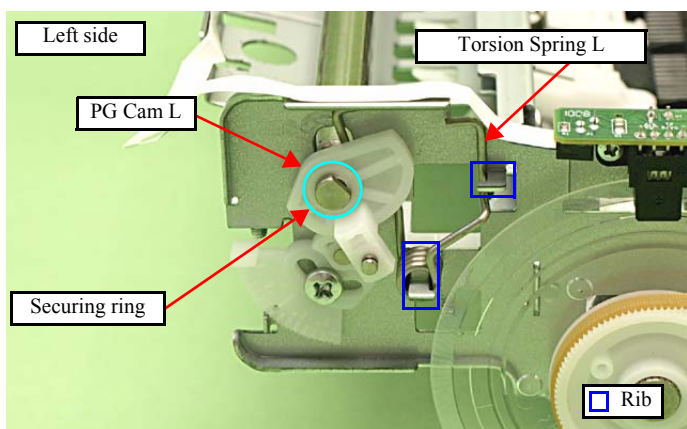

Figure 4-135. Removing the Carriage Unit (4)
10. Remove the securing ring that secure the PG Cam R and remove the PG Cam R. (See Fig. 4-135.)
13. Removing the Torsion Spring L. (See Fig. 4-135.)
- When installing the Torsion Spring L, hook the spring leg between PG Cam L and the Main Frame, and attach it to the ribs (x2) of the Main Frame. (See Fig. 4-135.)